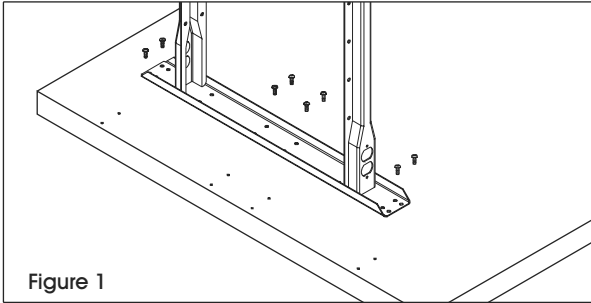

Figure 1
1. Using 24 wood screws, attach legs to the under side of the tabletop (5) through pre-drilled holes. (See Figure 1)